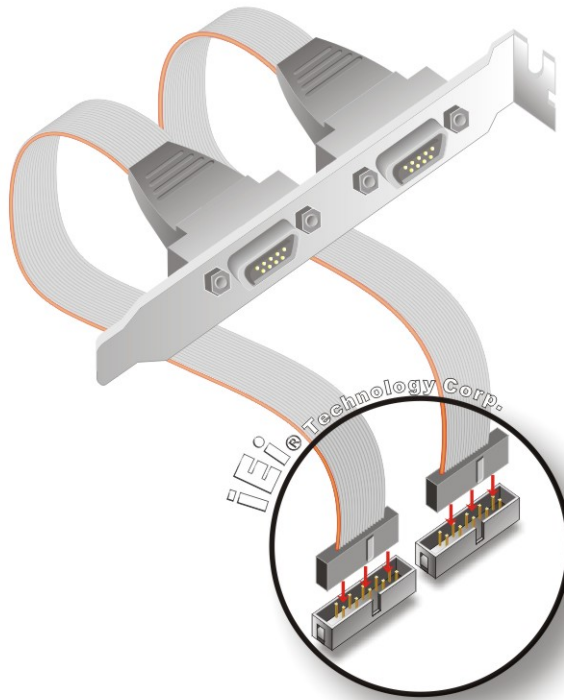

Figure 5-10: Dual RS-232 Cable Installation
Step 2: Insert the cable connectors. Insert one connector into each serial port box headers. See Figure 5-10. A key on the front of the cable connectors ensures the connector can only be installed in one direction.